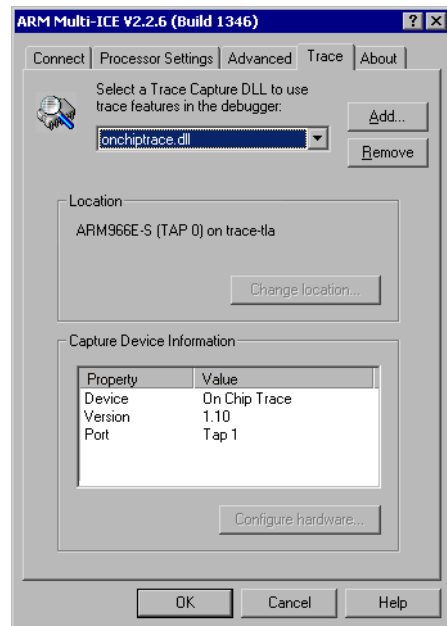

Figure B-8 Embedded Trace Buffer configuration
13. With onchiptrace.dll selected, the configuration for the current processor is displayed in the **Trace** tab, shown in Figure B-8 on page B-10.